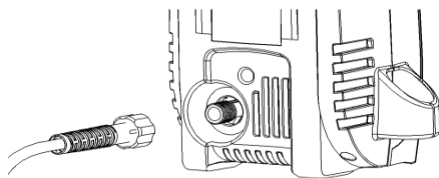

Figure 3
2. Screw the connector on the end of the high pressure hose and trigger assembly onto the water outlet pipe. See figure 3 and 4.